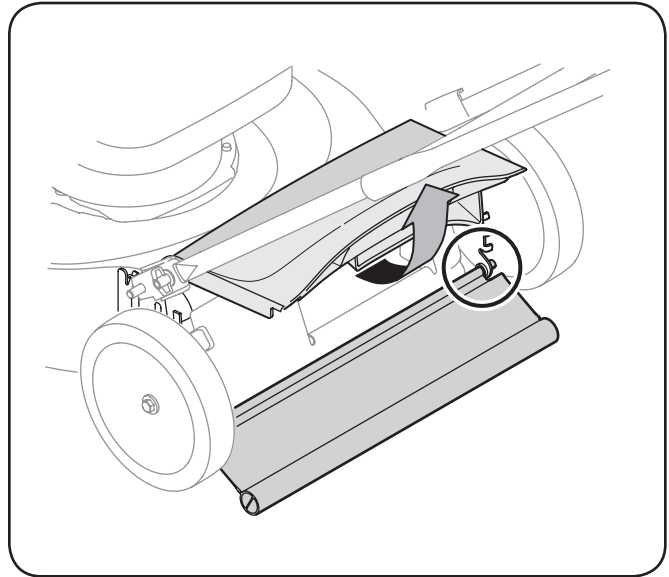

Figure 6-2
1. To remove rear flap, lift rear door, and press flap in on either side to remove from hole. See Fig. 6-2.